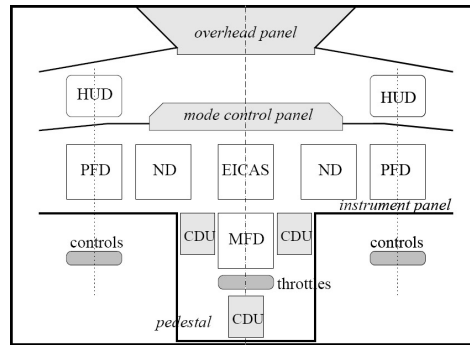

Figure 1: The cockpit human machine interface.
To inform the pilot of the status of the aircraft, the cockpit contains several displays. Among them are the **heads up display** (HUD), the **primary flight display** (PFD), the **navigation display** (ND), the **multi-function display** (MFD), the **control display unit** (CDU), the **engine indicating & crew alerting system** (EICAS) and the **mode control panel** (MCP). An overview of these displays can be seen in figure 1.